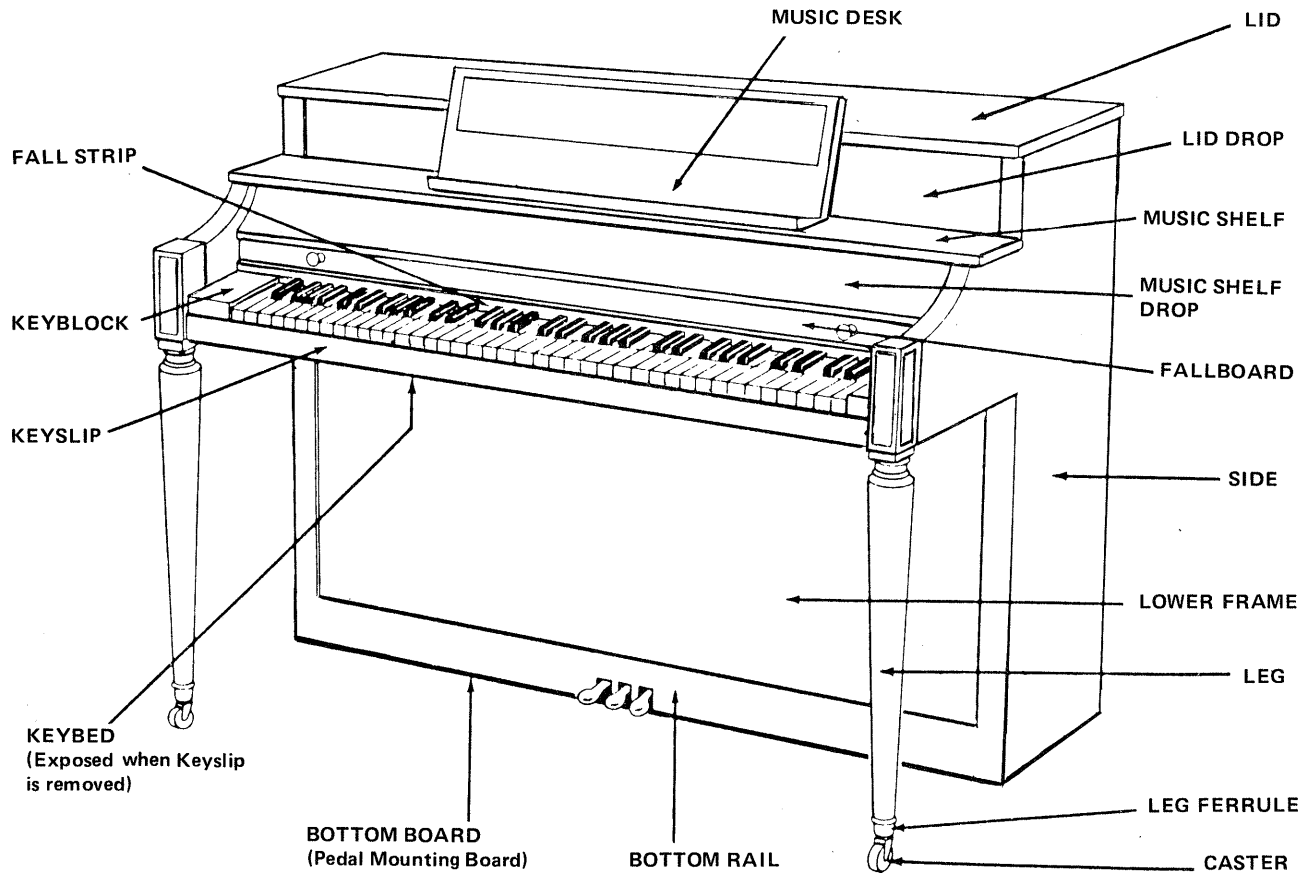

FIGURE B-1 Piano Cabinet parts nomenclature.
- A. FIGURE B-1 shows a typical piano cabinet and lists the part names that will be used in this manual.